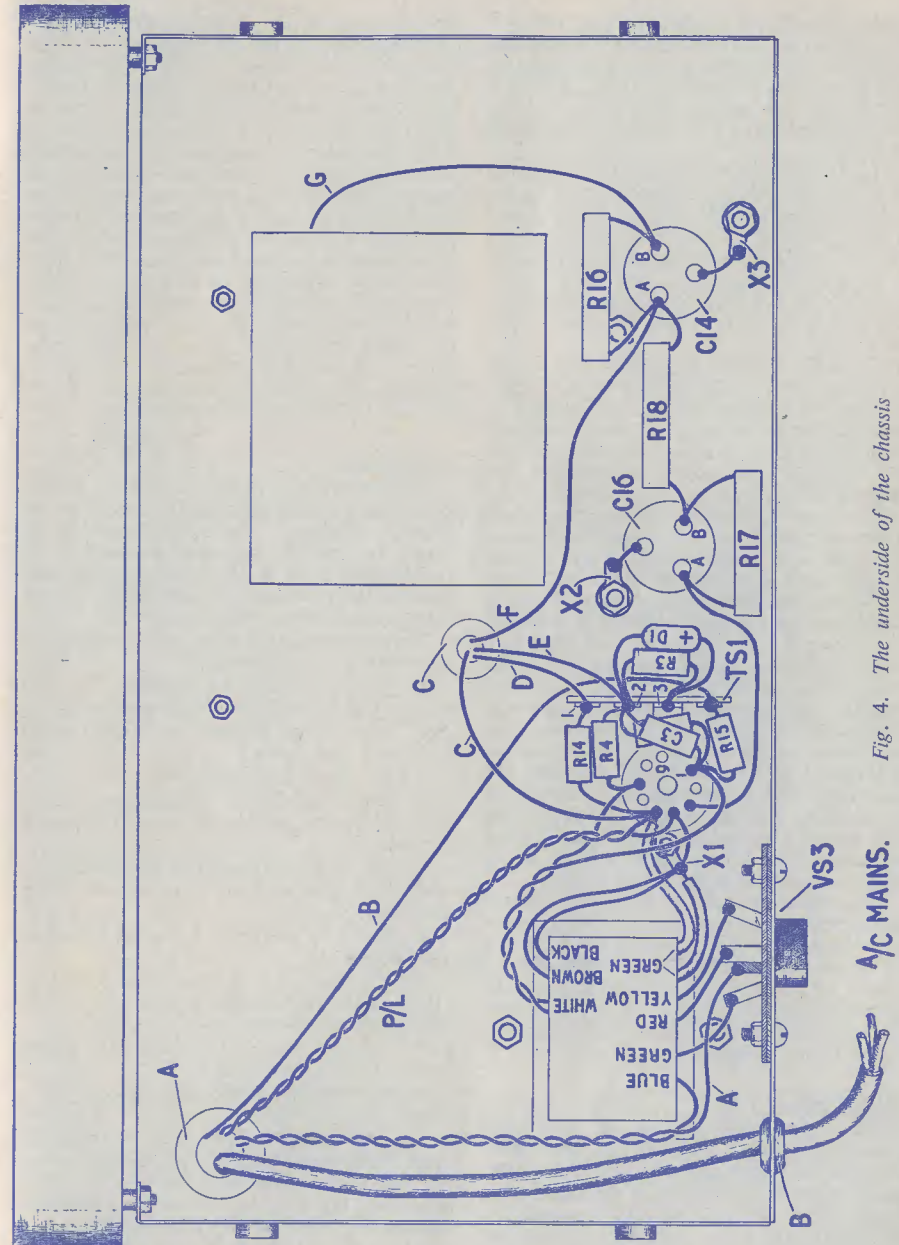

Fig. 4. The underside of the chassis
6. Fit $\frac{5}{8}$ in grommet A (upper left-hand corner, Fig. 4).
7. Fit the two $\frac{3}{8}$ in grommets B and C. (B is on the rear chassis apron, and C is in the centre of Fig. 4.)
6. Connect, via lead A, switch S_1 (see Fig. 5) to voltage selector panel (see Fig. 4) and solder both ends.